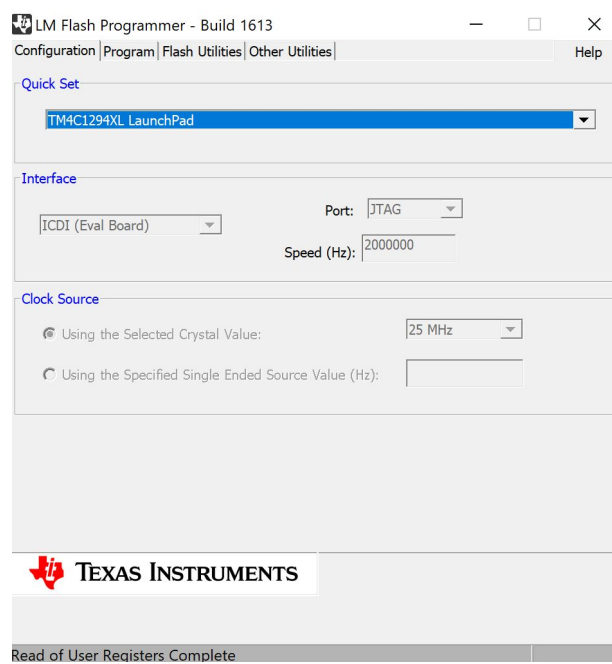

Figure 5. LM Flash Programmer Configuration menu
2. Once this is done, launch the program while your board is plugged in and on. Under Quick Set select TM4C1294XL Launchpad. Look to Figure 5 below.